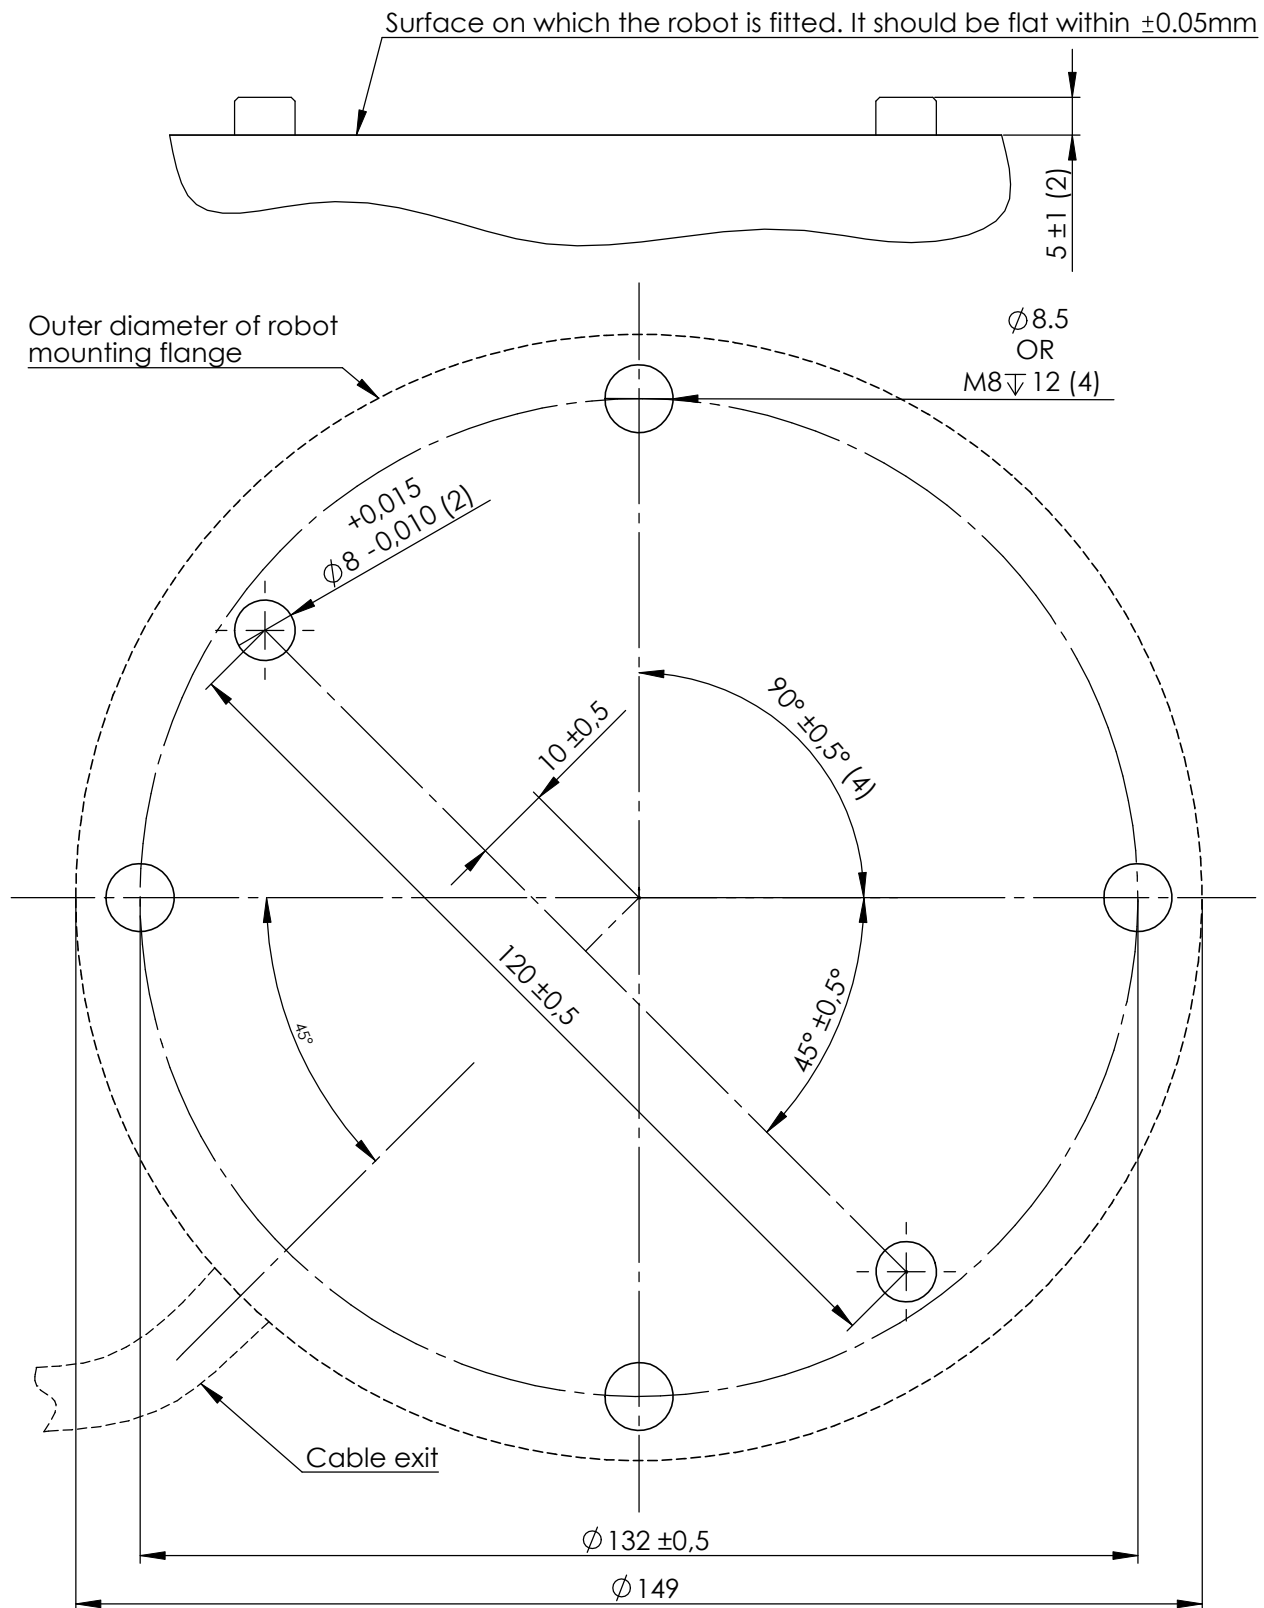

Figure 3.1: Holes for mounting the robot. Use four M8 bolts. All measurements are in mm.
**Robot Arm** The robot arm is mounted using four M8 bolts, using the four 8.5 mm holes on the base. It is recommended to tighten these bolts with 20 N m torque. If very accurate repositioning of the robot arm is desired, two Ø8 holes are provided for use with a pin. Also, an accurate base counterpart can be purchased as an accessory. Figure 3.1 shows where to drill holes and mount the screws.